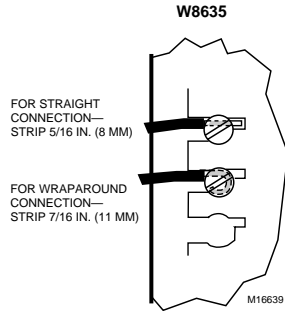

Fig. 3. Wiring W8635B terminals.
1. Loosen the terminal screws on the W8635B and connect the system wires. See Fig. 3.